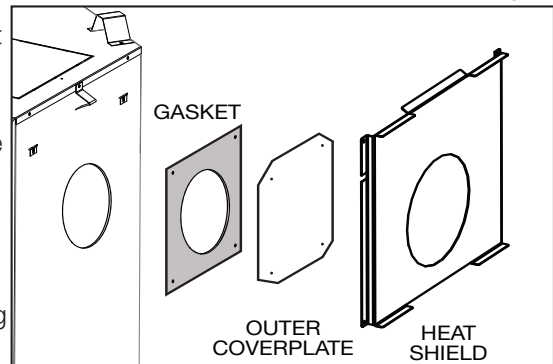

Fig. 2
- D. Remove the four screws securing the rear heat shield, set aside the shield. Remove the four screws securing the gasket and outer coverplate. (Fig. 2).